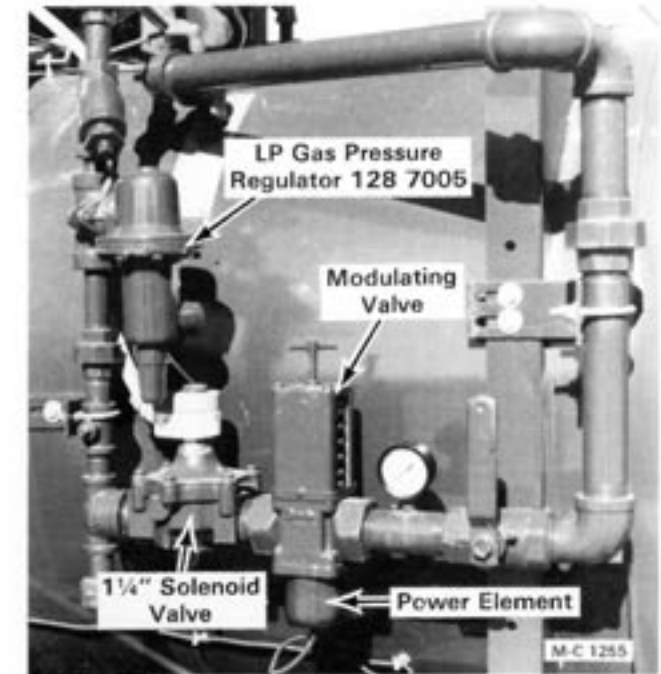

Figure 18 - LP Gas
- A. Check the LP Gas line coming out of the fan housing from the vaporizer coil to the pressure regulator with your hand, see Figure 18.
11. **LP Gas Only** - With the burner operating, check the reading on the gas pressure gauge in the manifold see Figure 18. It should be approximately 12 to 20 pounds (less in mild weather). If not, loosen the locknut on the pressure regulator adjusting screw, see Figure 18. Turn the adjusting screw IN to increase and OUT to decrease pressure.